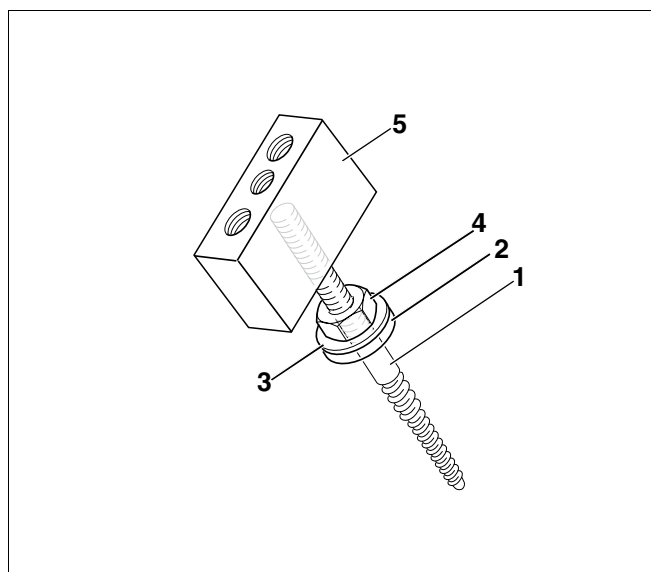

Fig. 5 Installation sequence for the special headless studs
- Pre-install the special headless studs in accordance with Fig. 5. During the assembly, observe the sequence of individual components.
- Turn the support block (Fig. 5, **Item 5**) onto the headless special stud until it bottoms out (Fig. 5, **Item 1**).